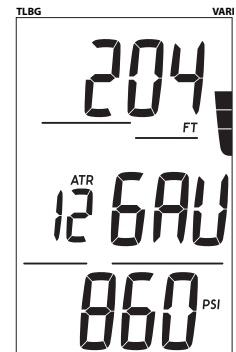

Fig. 78 - GAUG DIVE MAIN
**GAUG DIVE MAIN**, information includes (Fig. 78) -